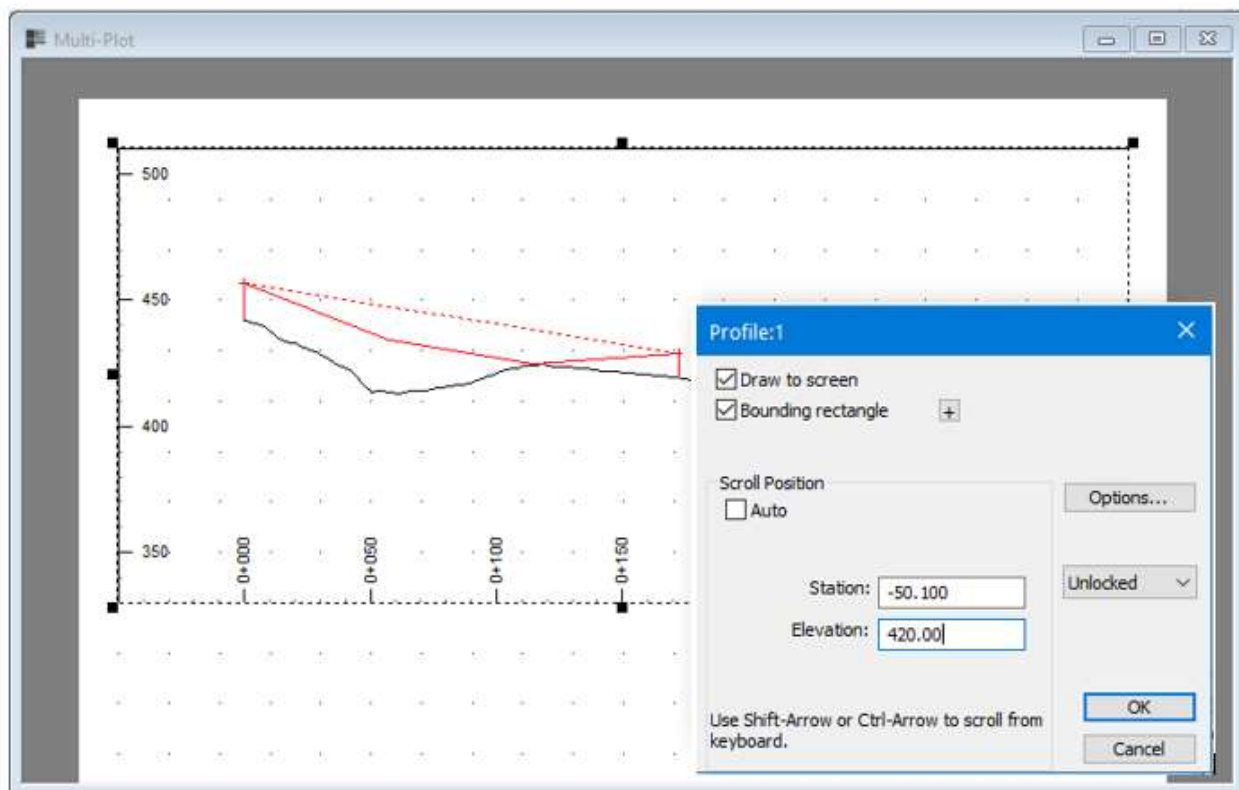

Figure 6-6: The Profile:1 Sub-view Options with explicit Scroll Position.
13. Move and size it to the top of the page as shown in Figure 6-6 below (click and drag in the interior to move , on the handles to size )